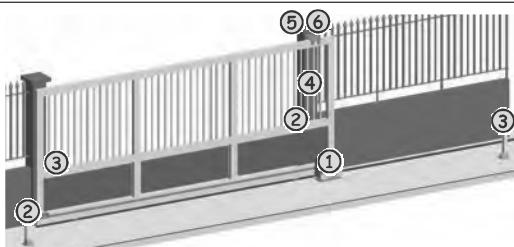

Fig. 3
- Prepare the electrical cables for connection to the accessories and the electrical power supply as shown in Fig. 3.
Observe points 10, 11, 12, 13 and 14 of the GENERAL SAFETY RULES. Follow the instructions in Fig. 3, route the cables in the raceways and make the electrical connections to the selected accessories. Always separate power cables from control and safety cables (push-button, receiver, photocells, etc.). To prevent any electric noise whatever, use separate sheaths.